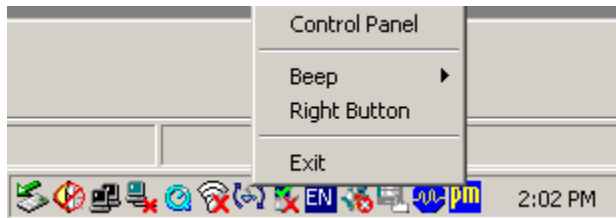

Figure 6-24: PenMount Monitor Popup Menu
Step 3: Click the icon. A pop up menu appears. See **Figure 6-24**.
Step 4: Click Control Panel in the pop up menu shown in **Figure 6-24**.